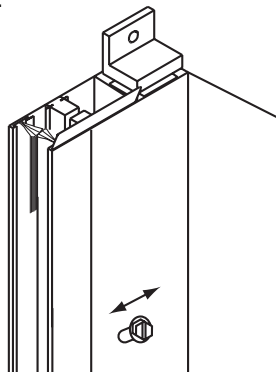
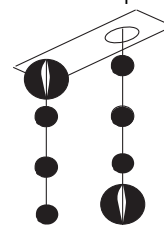

Figure 12
Figure 14
- ⑪ After again checking operation, re-position side channels, if necessary, to properly adjoin the head box. Note that channels that are “drilled for jamb” with the adjustable mounting angles attached are designed to help keep the channels plumb and parallel in non-squared openings. The slots in the mounting angles with the side channel attachment screw allow for an adjustment of up to $\frac{3}{8}$ ". This feature allows the channel to be correctly positioned while allowing the mounting angles to be fastened tight against the jamb (see Fig. 12). For outside mount side channels, there is no surrounding jamb, so proper positioning is easier. Install all fasteners in side channels, being careful to keep channels square to the head box and parallel to each other. After checking fabric alignment and channel positioning, return shade to full open position and re-insert the fabric into the side channels. Be sure that the slat bar at the bottom of the fabric is exactly centered. Run the shade through several more cycles to confirm proper operation.
the down stop. Next, open the shade to the fully open position—the slat bar will be all the way up but still fully visible and not entered into the headbox (see Fig. 12). Attach the other stop ball to the very top part of the back section of the exposed chain. This is the up stop (see Fig. 14).